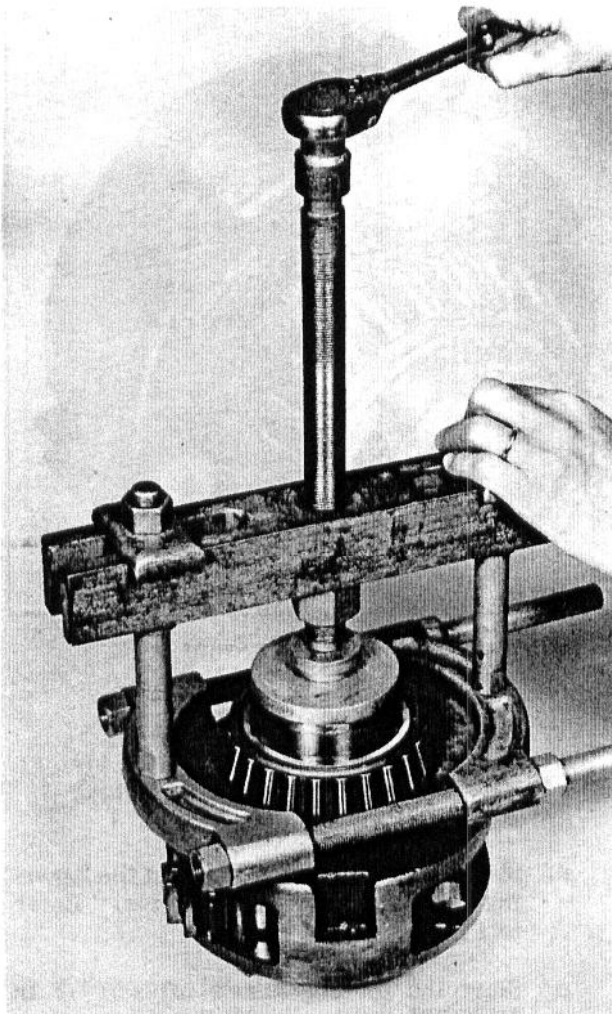

Fig. 46 - Removing Outer Planetary Carrier Bearing Cone
8. Remove the outer planetary carrier bearing cone with a suitable puller. See Fig. 46.